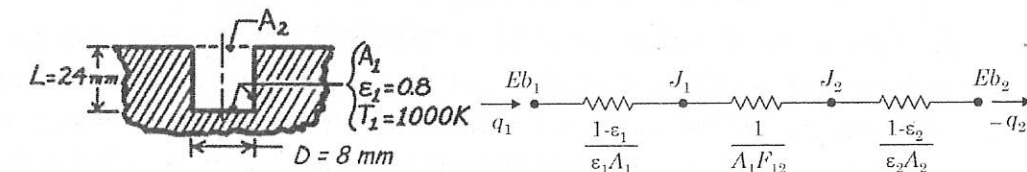

Figure 3.
- (b) (i) Consider a hemispherical furnace with a flat circular base of diameter D (refer figure 3). Determine the view factor from the dome of this furnace to its base. (3)